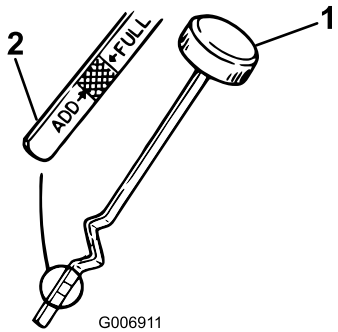

Figure 19
- Unscrew the oil dipstick and wipe the metal end clean (Figure 19).